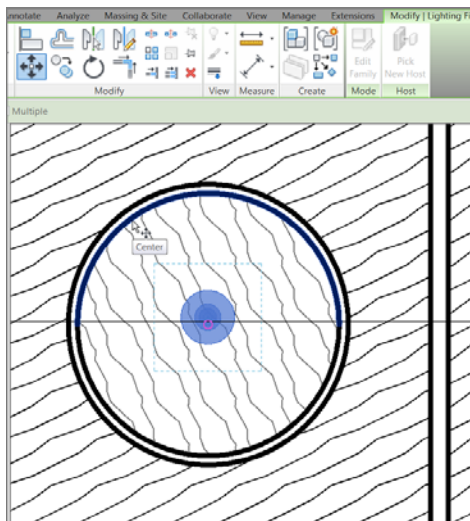

FIGURE 9.35: Moving the fixture to the correct location
12. Hover your cursor over one of the inside radial walls. A center snap appears. Pick the radial wall. Your fixture should snap to the center of the soffit (see Figure 9.35).